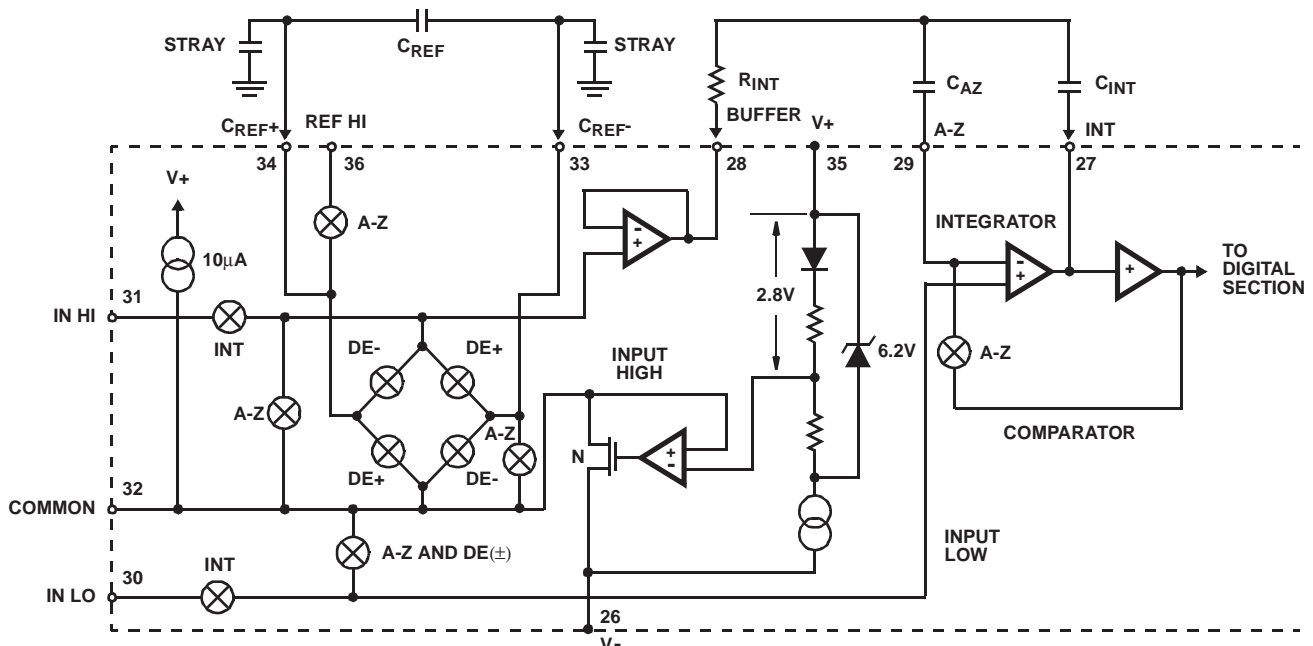

FIGURE 3. ANALOG SECTION OF ICL7116 AND ICL711
Figure 3 shows the Analog Section for the ICL7116 and ICL7117. Each measurement cycle is divided into three phases. They are (1) auto-zero (A-Z), (2) signal integrate (INT) and (3) de-integrate (DE).